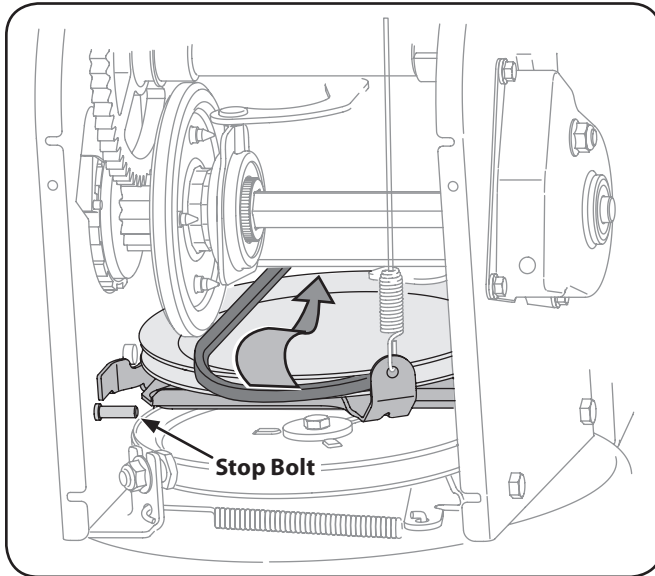

Figure 8-7
6. Back out the stop bolt to increase the clearance between the friction wheel disc and friction wheel. See Fig. 8-7.
7. Slip the drive belt off the pulley and between friction wheel and friction wheel disc. See Fig. 8-7.